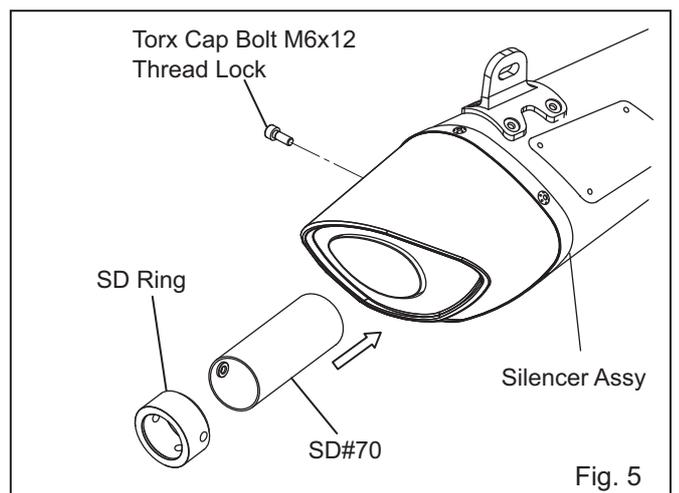

Fig. 5
- 6) Install SD#70 with SD Ring and Torx Cap Bolt M6x12 Thread Lock if needed (See Fig. 5).